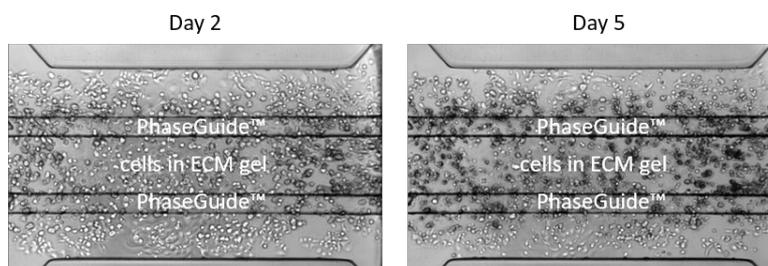

Figure 7: Pancreatic cancer cells in Matrigel® in the OrganoPlate® 3-lane
13. An example of a cells-in-gel culture in the OrganoPlate® 3-lane is shown in figure 7.